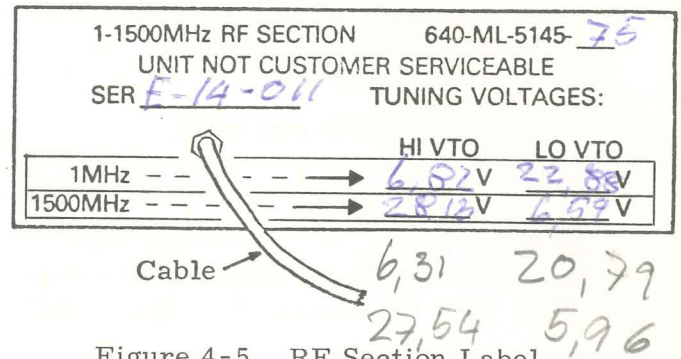

Figure 4-5. RF Section Label
7. Locate the 1-1500 MHz RF Section and record from the label the four tuning voltages (Figure 4-5).